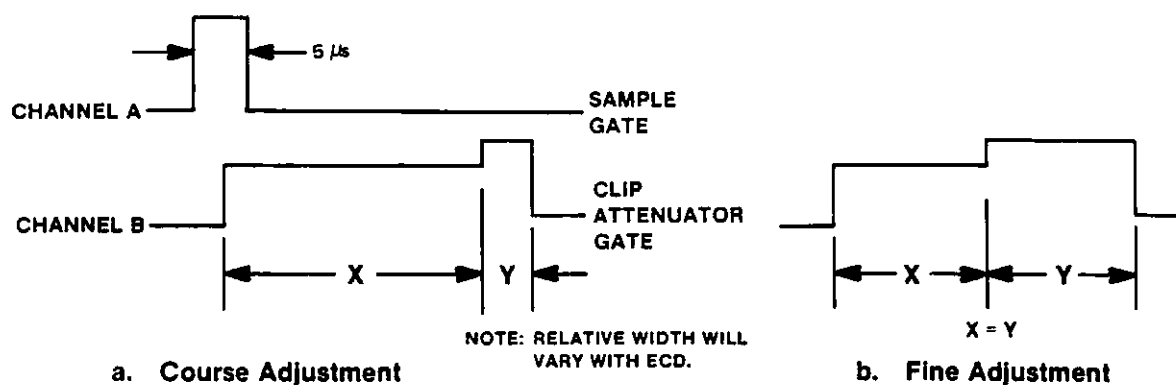

Figure 2.19. Clip Attenuator Waveform Adjust
e. Adjust R10 on the Clip Attenuator module so that the Sample Gate overlaps with the leading edge of the Clip Attenuator Gate (see Figure 2.19.a).
f. Monitor only the Clip Attenuator Gate and adjust R10 so that  $X=Y$  (see Figure 2.19.b).